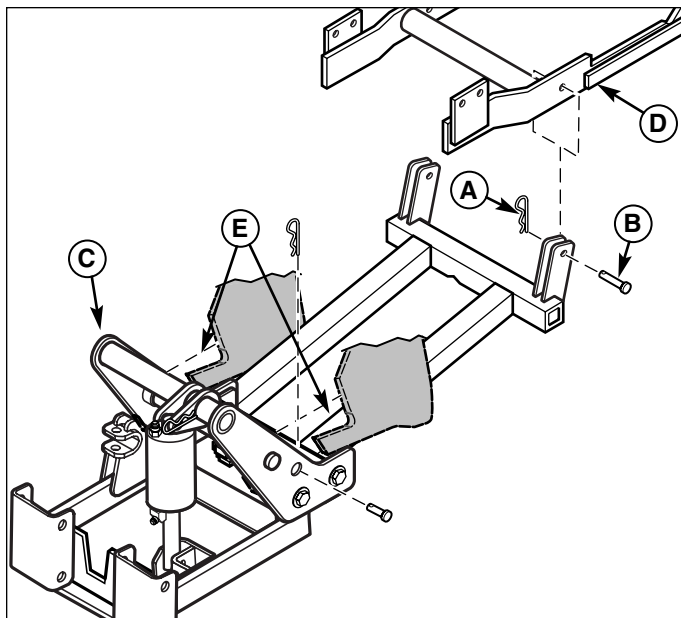

Figure 10. Hitch to Tractor Installation
1. Lift the hitch assembly (C, Figure 10) slide onto the slots on tractor (E). Lift back of hitch assembly to frame and install clevis pins (B), clevis pins (F) and hair pins (A).